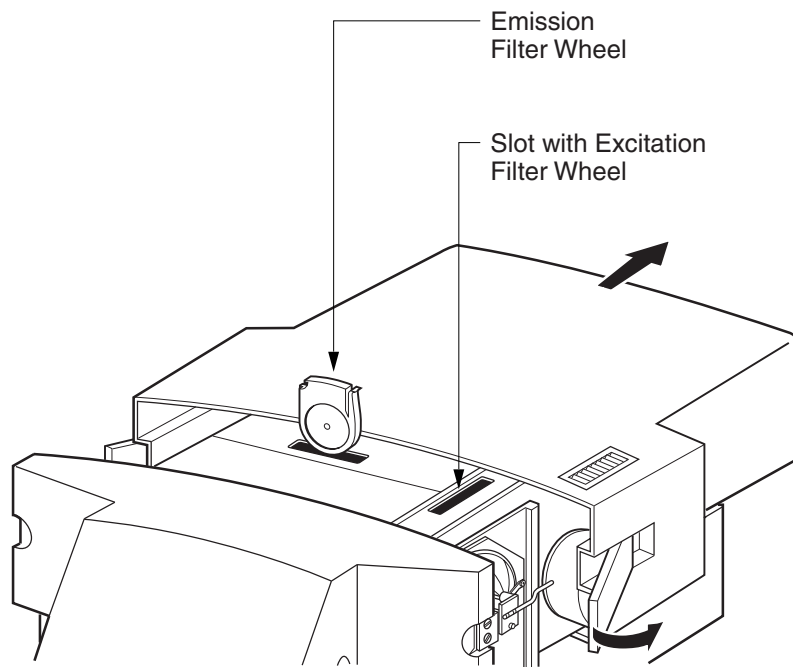

Fig. 1.5. Installing the filters.
3. Remove the two rubber plugs on the top of the filter wheel housing by pulling them straight upward. These plugs shield the filter wheels. The excitation filters are located in the slot on the right side of the instrument; the emission filters are located in the slot in the center of the instrument (see Figure 1.5). Changing both types of filters is similar.